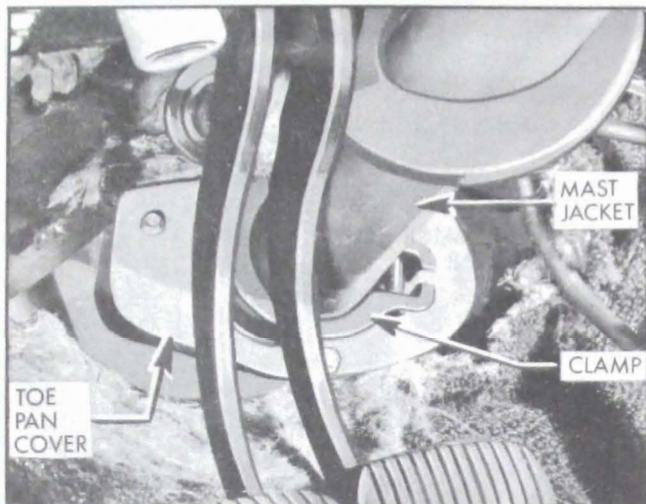

Figure 8-73—Mast Jack Attachment - Lower End
3. Remove the screws that retain toe pan cover to cowl. See Figure 8-73.